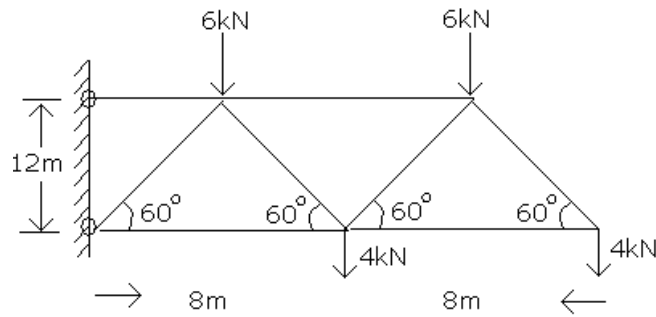

Figure 8
8. Find the forces in all the members of the warrentype Cantilever truss shown in Figure 8 by the method of sections. Tabulate the values. [16]